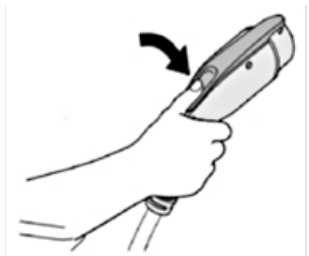

Fig.6-7 Pick off the charging connector (Case C socket)
- b) Take the charging adapter out of the holder as in Fig. 6-7.